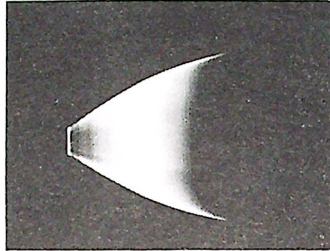
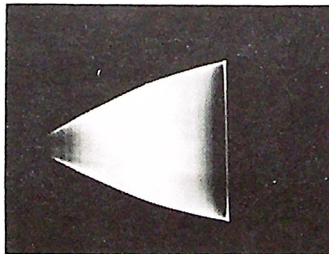

Figure 3-5. Correctly Phased Modulated R-F Envelope
Figure 3-6. Incorrectly Phased Modulated R-F Envelope
- 7) Observe the pattern closely, preferably while using speech modulation. If the oscilloscope pattern has a well defined limit in the direction of negative modulation, as shown in figure 3-5, the Volumax output is connected properly; that is, it is controlling the negative modulation peaks. If, however, no distinct limiting is evident on the negative modulation peaks but does appear in the positive direction, as in figure 3-6, the output connections must be reversed.